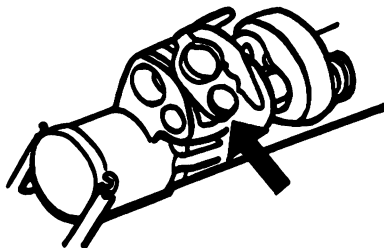

Figure 9.
9. Remove the tracker lens cover and secure to tracker forward shock absorber. Make rapid visual inspection of tracker lens for damage or obstructions (figure 9).